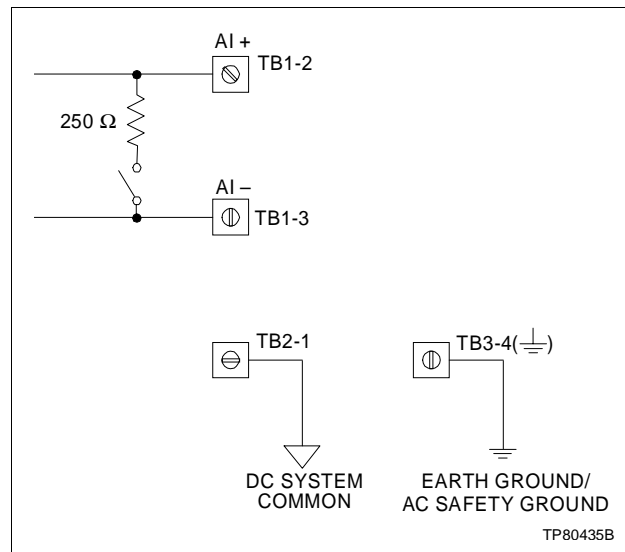

Figure 6-2. Checking Common Mode Voltage
1. Measure the common mode voltage on each input (+/-) to earth ground (Fig. 6-2).